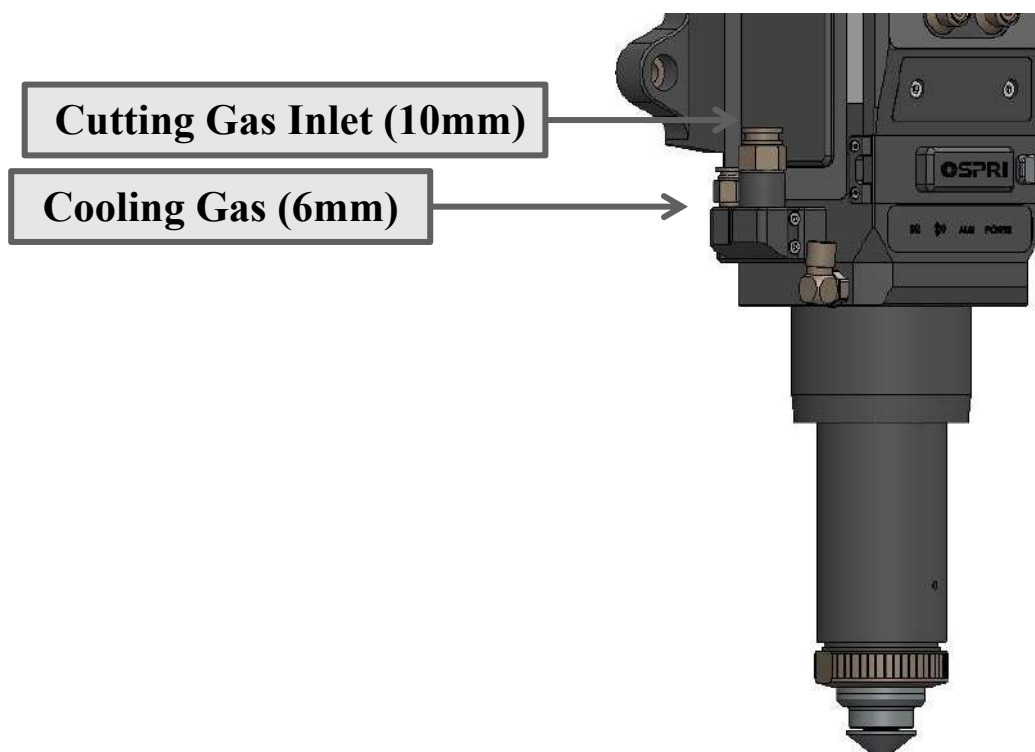

Figure 1.4
- ① The inlet is connected to 10mm gas hose, as shown in the Figure 1.4, and is used to connect cutting gas, with inlet pressure <3.0 Mpa.
- ② The inlet is connected to a 6mm gas pipe, as shown in Figure 1.4, and is used to connect cooling gas, input pressure <0.6 Mpa.